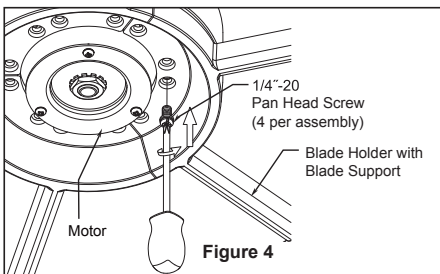

Figure 4
- 4. Secure the blade holder with blade support to the motor using the 1/4"-20 screws. The post on the blade holder needs to align with the hole between the 1/4"-20 threaded holes located on the bottom of the motor. (Figure 4)